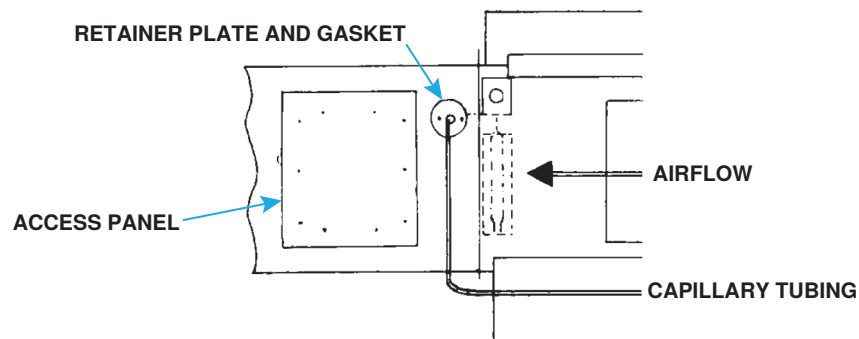

Figure 18. Capillary Sensor Installation
- (2) At selected ductwork location, mark and cut 1/2-inch hole that will be sealed with gasket and retainer plate (see Figure 18). Push sensor and capillary tubing through hole.
- (3) Remove ductwork access panel (see Figure 18) and install sensor in sensor holder so that it senses air temperature as it flows through holes in holder.
- (4) Position sensor holder and junction box assembly inside ductwork so that sensor will be shielded from direct airflow and secure junction box to ductwork using four field-supplied #6 sheet metal screws.
- (5) Slide gasket (cut slit) and retainer plate over capillary tubing. With gasket next to ductwork, install hole retaining plate and secure using field-supplied sheet metal screws.
- (6) Close ductwork access panel.